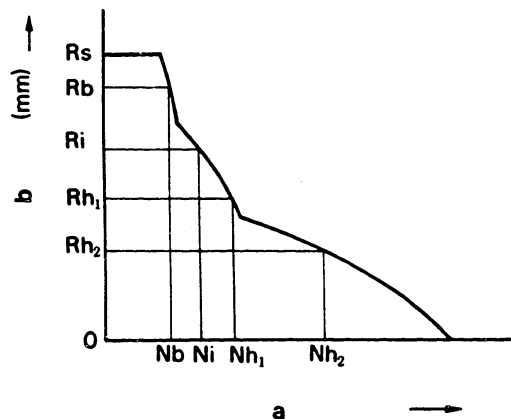

Fig. 194
- 1) With the pump speed maintained at 80 - 100 rpm, temporarily set the control lever so that the control rack position is  $R_s$  mm, the same as for the conventional type RLD governor. (Fig. 194)
Tightening torque: 2.5 - 3 kg-m (Figs. 194 and 195)
- 3) Increase the pump speed until the control rack position is at  $R_i$  mm and then check that the pump speed is  $N_i$  rpm. (Fig. 194)
- 2) Maintain pump speed at  $Nh_1$  rpm and adjust the amount the governor shaft is screwed in (tightening torque of nut: 1.0 – 1.5 kg-m) so that the rack position is  $Rh_1$  mm. (Figs. 194 and 197)